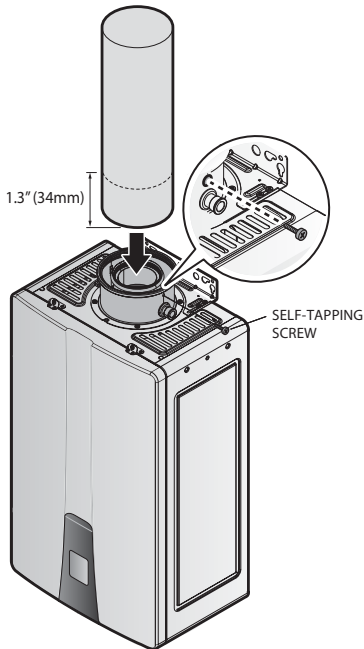

Figure 1
2. Begin assembling the vent pipe at the appliance flue outlet. Measure 1.3" from the male end of the pipe and the collar to that length. The pipe must be secured to the vent collar using the supplied self-tapping metal screws as shown below. **(Fig.1)**